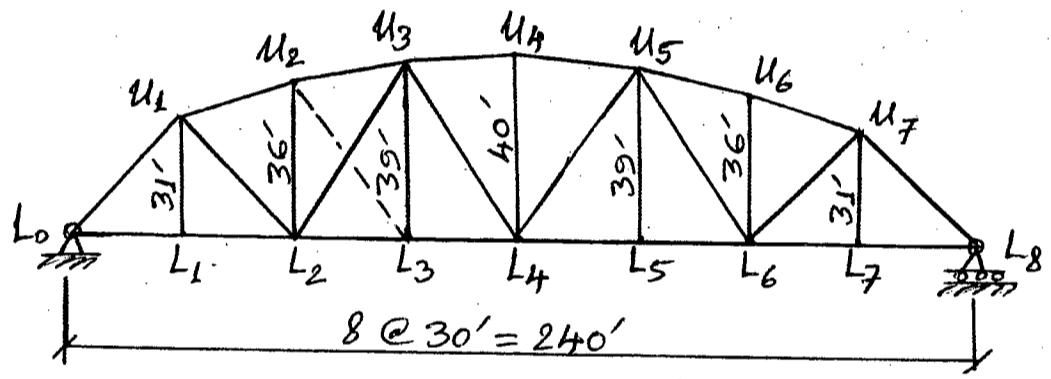

Fig. 12 (Q.no.13)
13. Calculate the force in the counter U_2L_3 of the truss shown in Fig. 12 due to a moving UDL of 3 kip/ft accompanied by a moving concentration of 60 kip. The dead load of the truss is 1.5 kip/ft. (28)